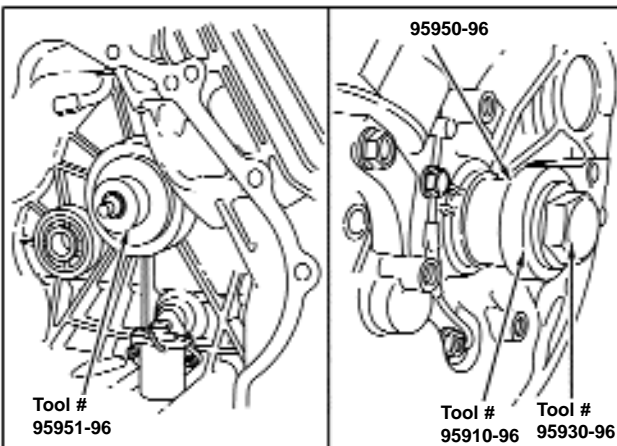

Figure 137 - Removing Bearing - Mag. Side
4. Insert screw with driver through ball bearing and thread into support. Continue tightening screw until ball bearing is removed, Figure 137.